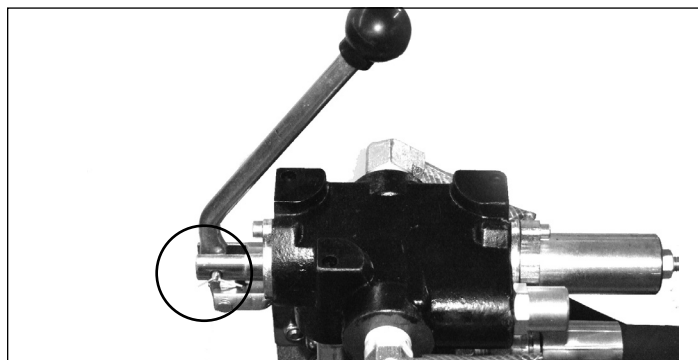

Figure 10
8. **(U.S. Version)** Install hydraulic valve control lever. Secure with pin and cotter key. **SEE FIGURE 10.**
(European Version) Install both hydraulic valve control levers. Secure with pin and cotter key. **SEE FIGURE 10.**